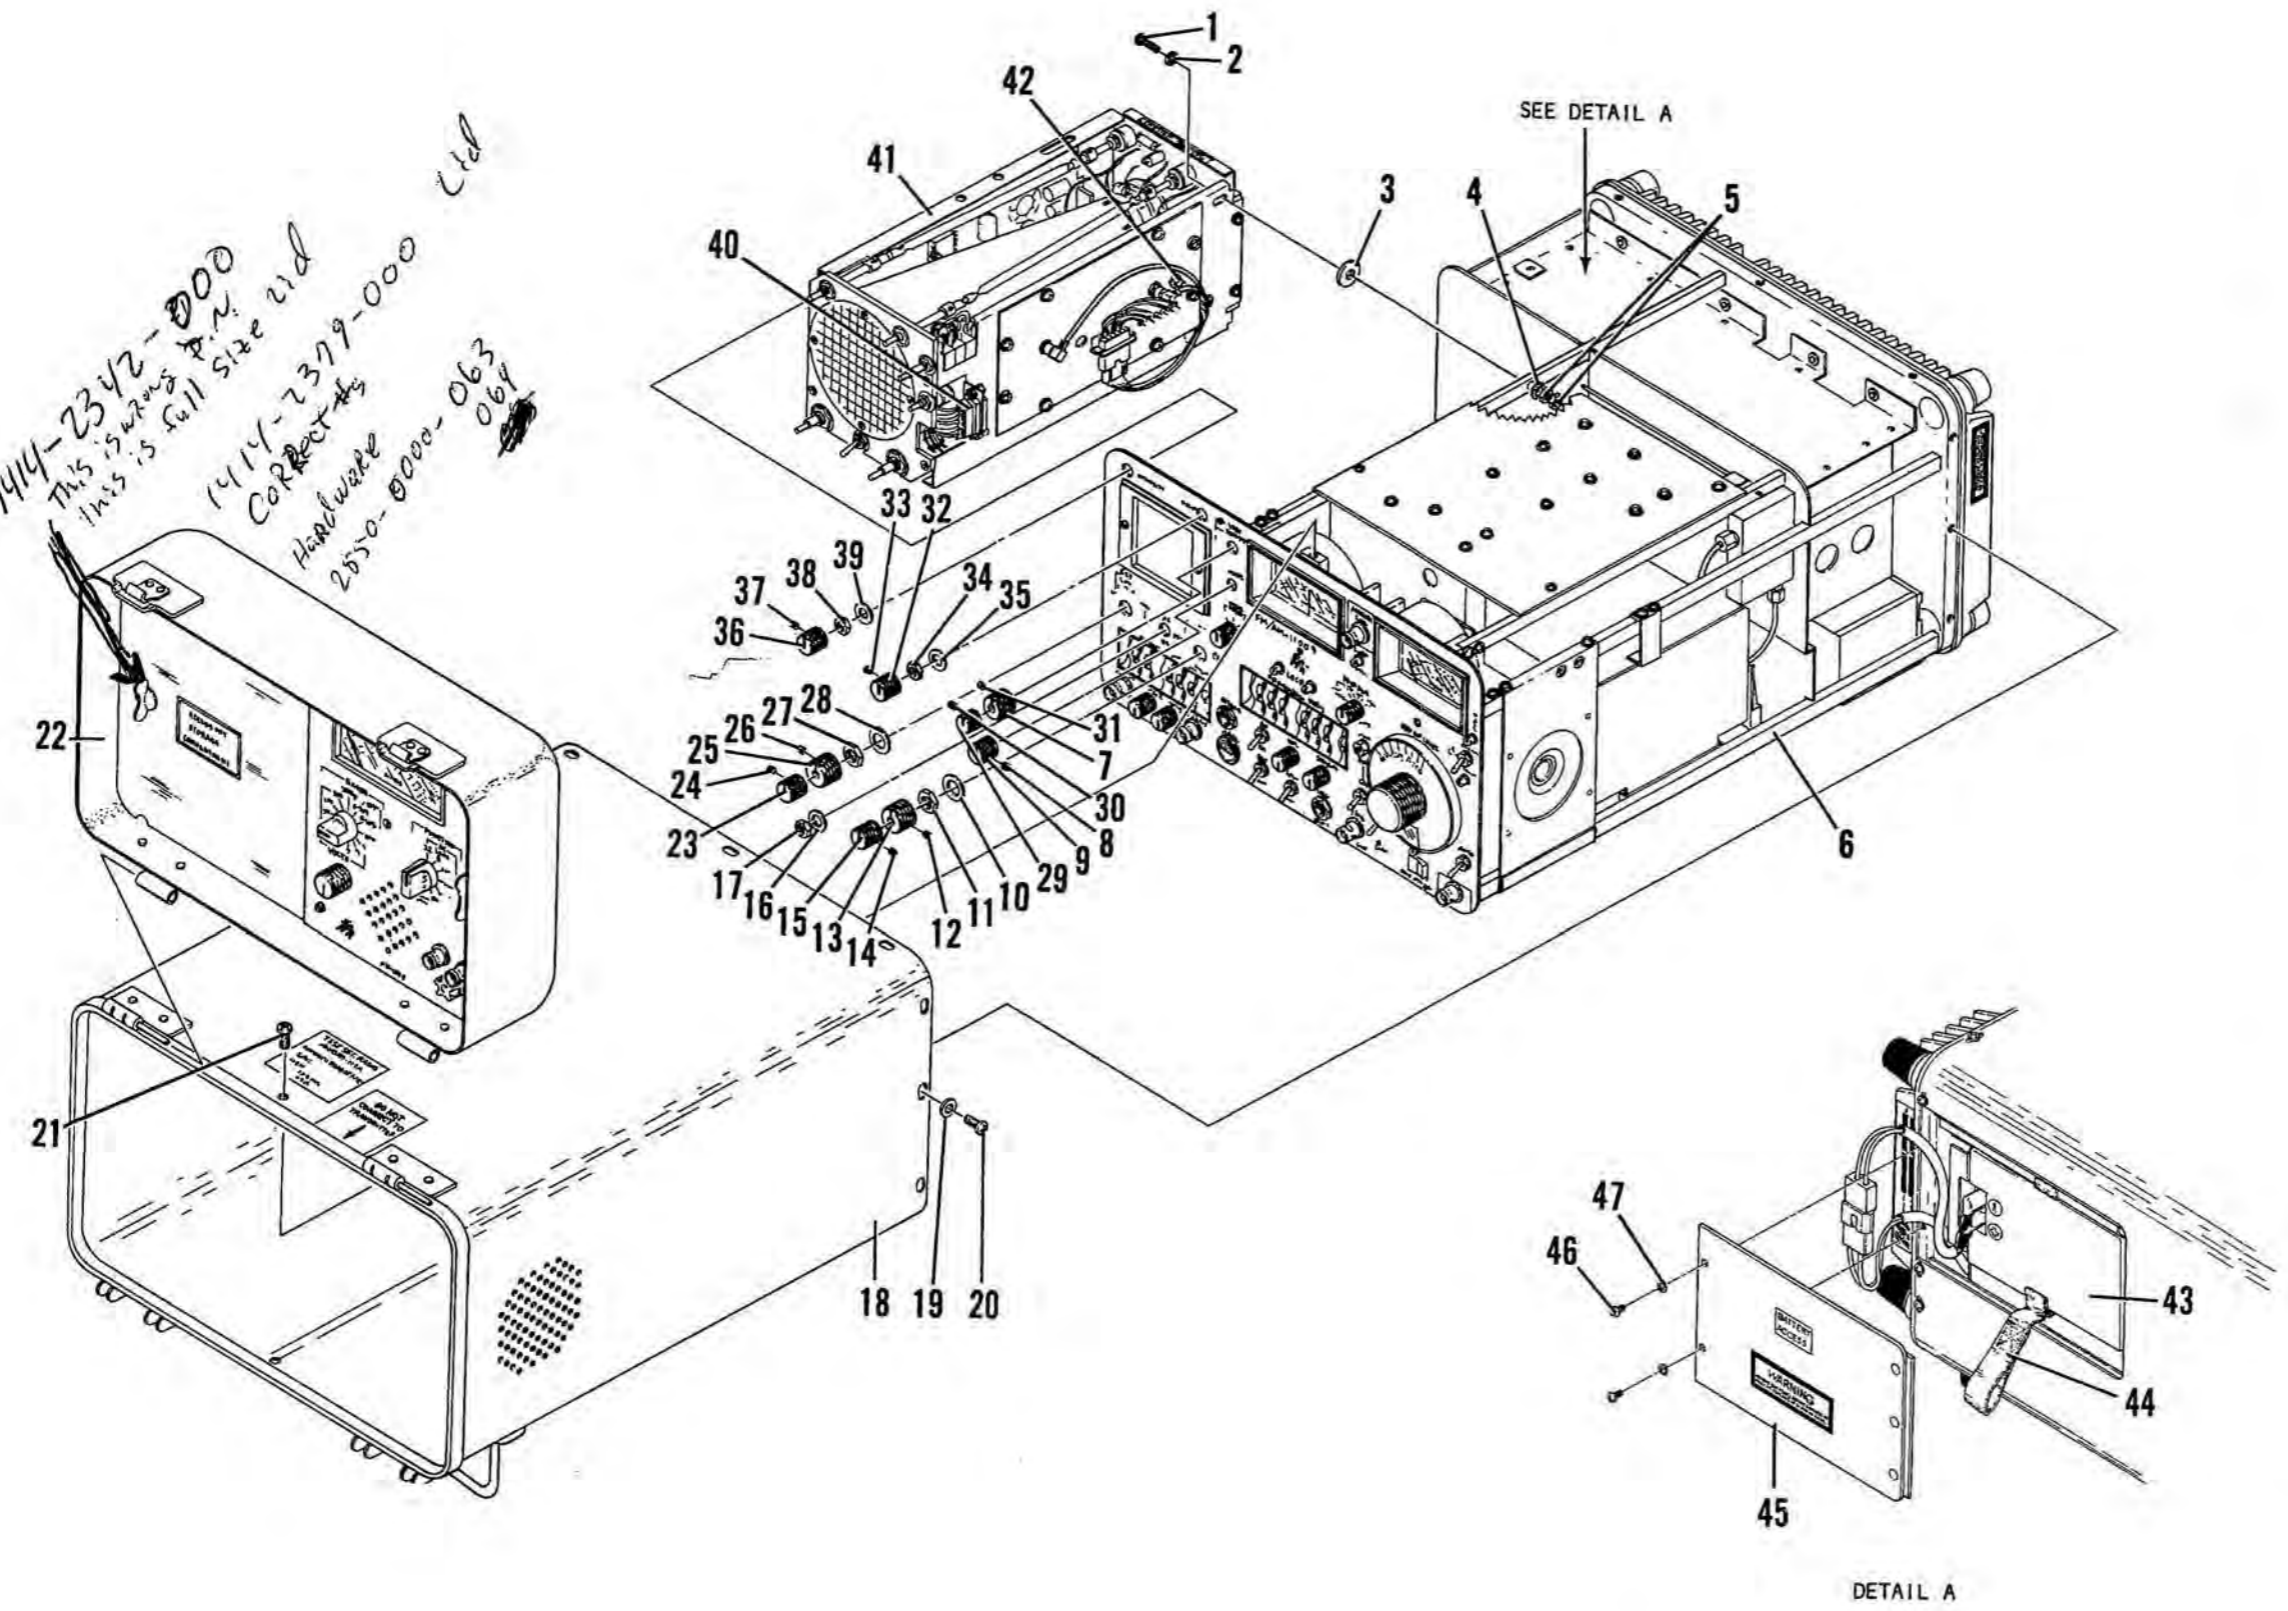

Figure 6-2 FM/AM-1100S/A
6-1-4 CASE REMOVAL (Fig. 6-2). Remove:
- A. Remove BATTERY (43) (Fig. 6-2) by:
1. Removing two Phillips screws (46) and two washers (47), and battery cover (45) (Fig. 6-2).
3. Pulling on loop end of removal strap (44) to pull battery (43) out of battery holder (Fig. 6-2).